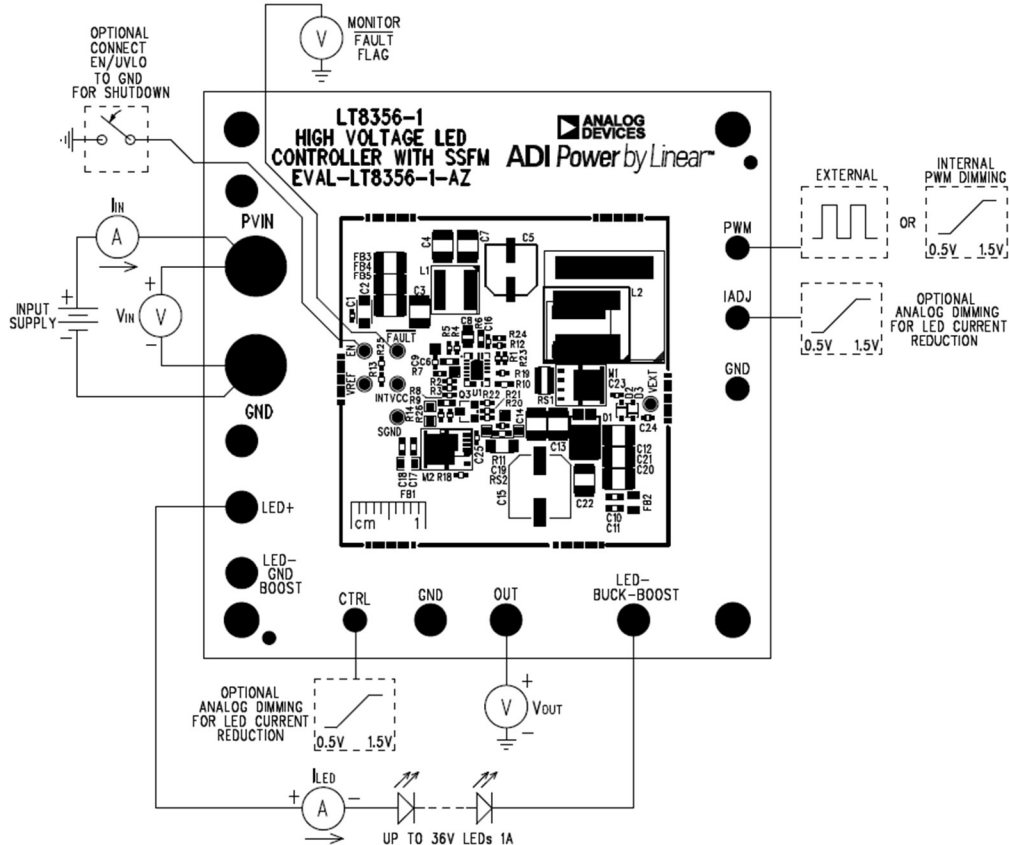

Figure 1. Setup Drawing for EVAL-LT8356-1-AZ as Buck-Boost Mode LED Driver
1. With power off, connect a string of LEDs that will run with forward voltage less than or equal to 36V (at 1A) to the LED+ and LED- (Buck-Boost) turrets on the PCB as shown in Figure 1.